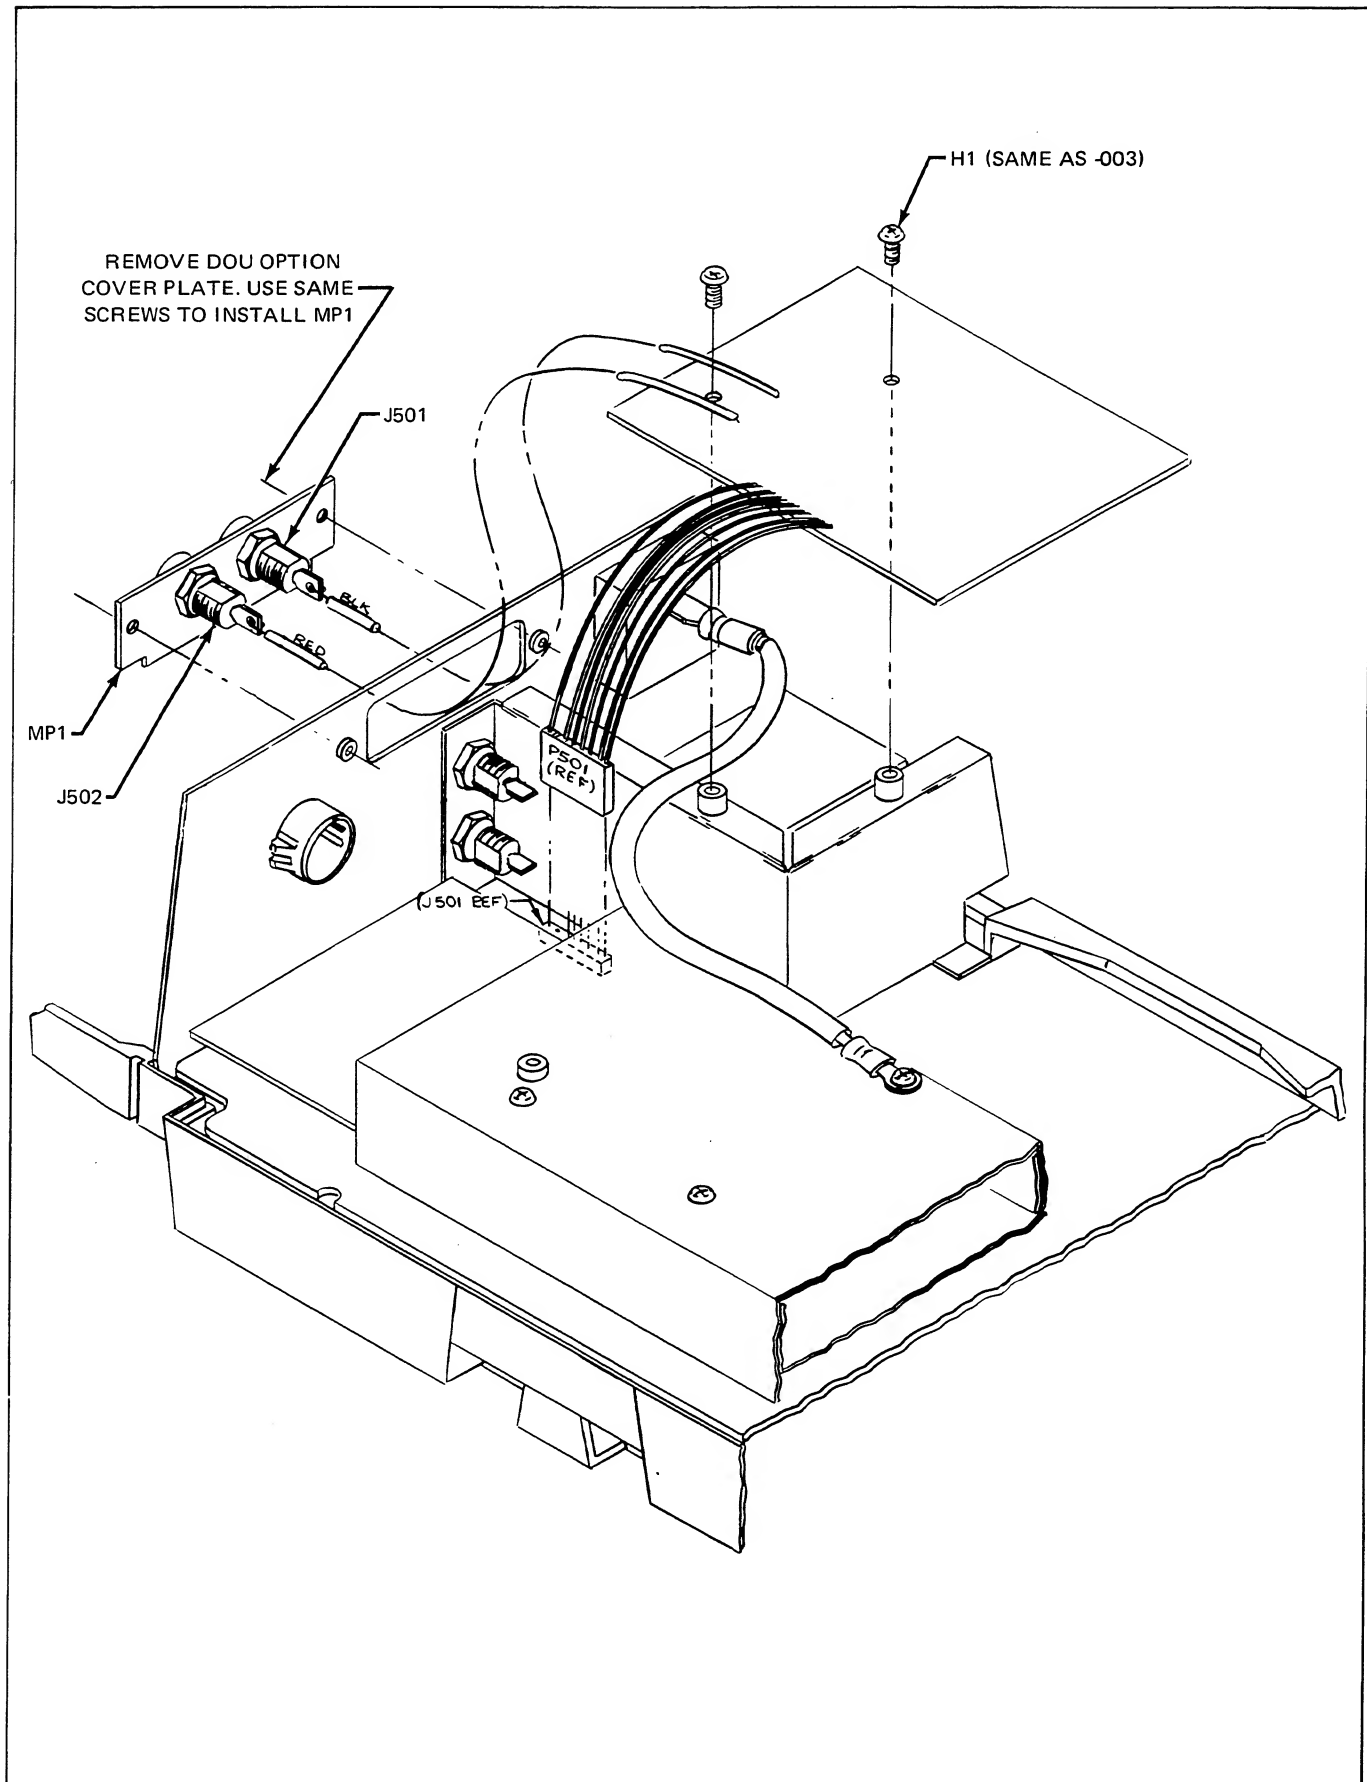

Figure 604-1. Logarithmic Analog Output Option Installation
604-6. Install the option as follows, referring to Figure 604-1.
4. Secure the Logarithmic Analog Output Assembly to the top of the transformer bracket (see Figure 604-1) using the two screws provided.